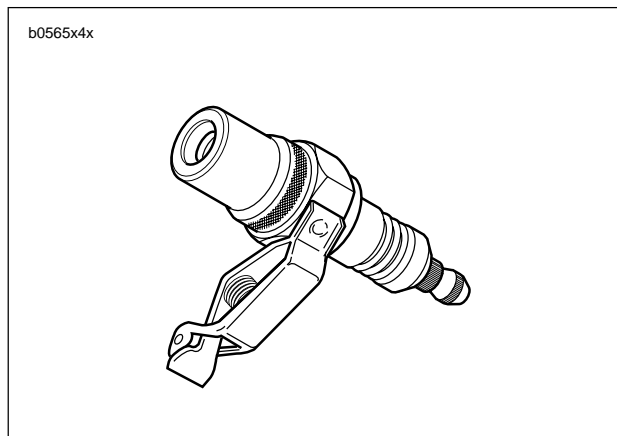

Figure 4-31. Spark Tester (Part No, HD-26792)
1. See Figure 4-31. A SPARK TESTER (Part No. HD-26792) must be used to verify adequate secondary voltage (25,000 volts) at the spark plug.